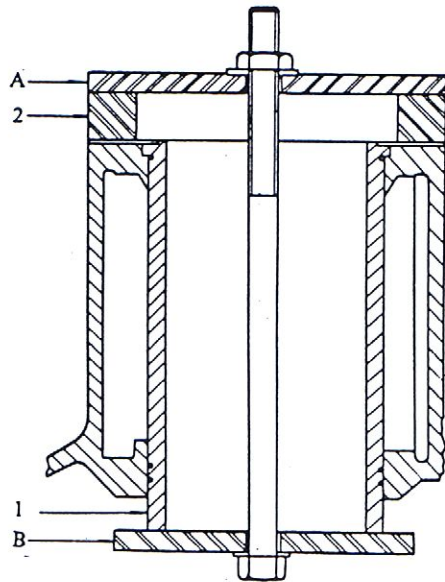

Fig. 29 Assembly for withdrawing cylinder liner
(1) With the cylinder head and piston/connecting rod assembly removed, tap the liner upwards with a block of wood.
(2) If, after long service, it does not move readily do not use excessive force but draw it out; see Fig. 29.